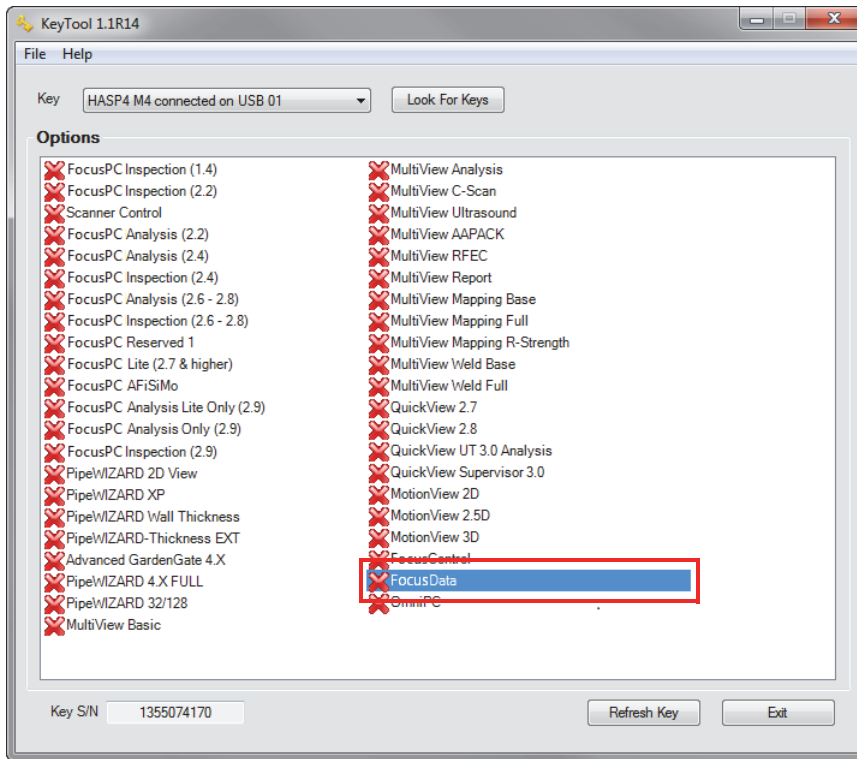

Figure 5-4 The KeyTool window showing the FocusData license
2. Verify that your HASP key, which contains your FocusData license, is properly connected and recognized by your computer: On the Windows taskbar, click the **Start** button, click **All Programs**, click **Evident NDT**, and then click **Keytool [Version Number]** (see Figure 5-4 on page 40).